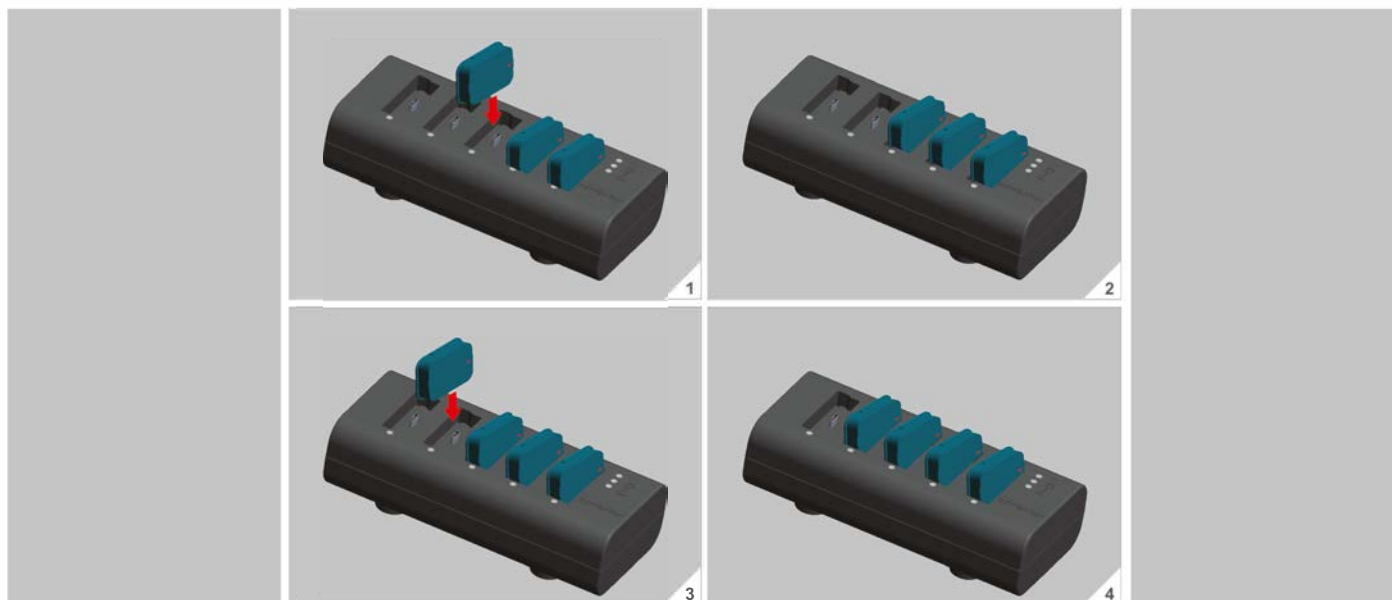

Figure 21. Placing Monitoring Devices into the slots of SmartBox
- Place the Monitoring Devices into the slots of the SmartBox, as shown in Figure 21